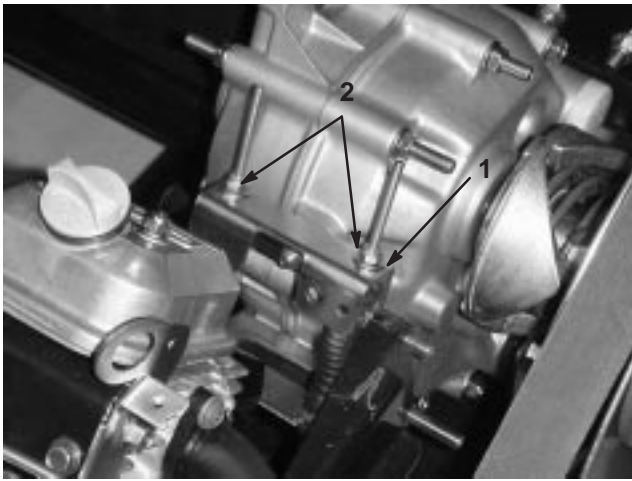

Figure 5
2. Ensure that the neutral bracket is in the neutral position (level) by turning the drive clutch (Fig. 5). The vehicle should not roll back and forth. If it does, manually move the neutral bracket to the neutral position.
3. Tighten one of the locknuts (Fig. 5) just enough to take the slack out of the shift cable.